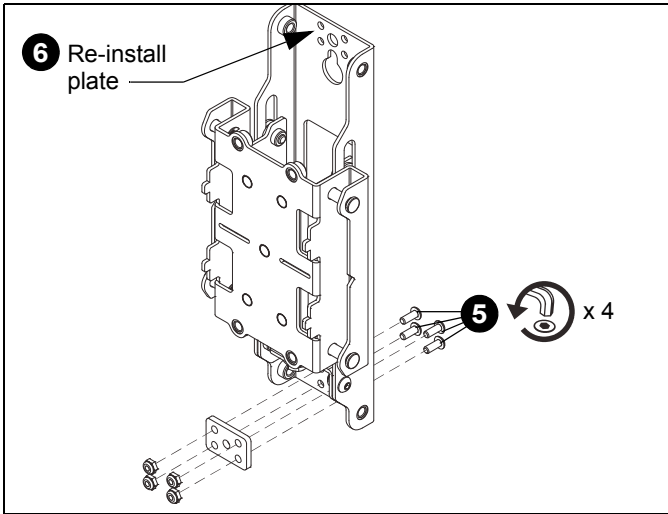

Figure 5
- 5. Remove four button head screws and nuts, and one small metal plate from lower side within wall upright. (See Figure 5)
- 6. Reinstall metal plate at top of wall upright using same hardware removed in Step 5. (See Figure 5)